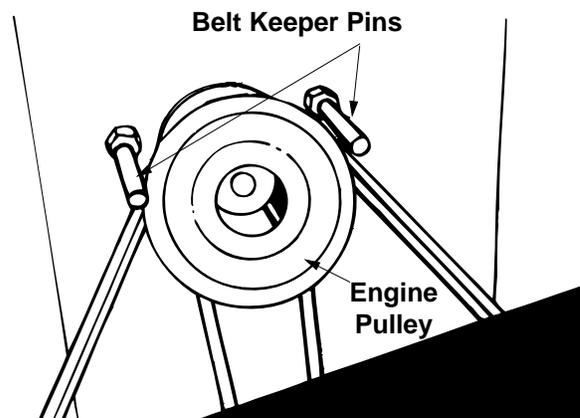

Figure 25
**NOTE:** Figures 25, 29 and 30 are shown with the unit tipped up for clarity. It is not necessary to tip the unit to remove the belts.
**NOTE:** When reassembling, make certain belt keeper pins are assembled in the same locations from which they were removed. See Figure 25.
4. Remove the belt keeper pins from the lower frame. See Figure 25.
3. Remove the belt keeper pins from the engine pulley belt guard. Refer to Figure 25.
**NOTE:** Make certain belt keeper pins are reassembled as shown in Figure 25.
**NOTE:** When reassembling, make certain belt is inside the pins. See Figure 25.